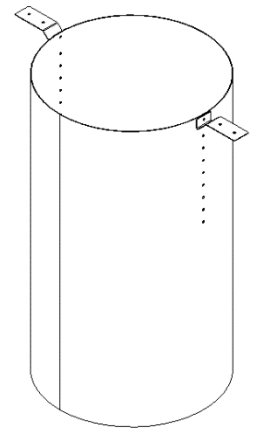
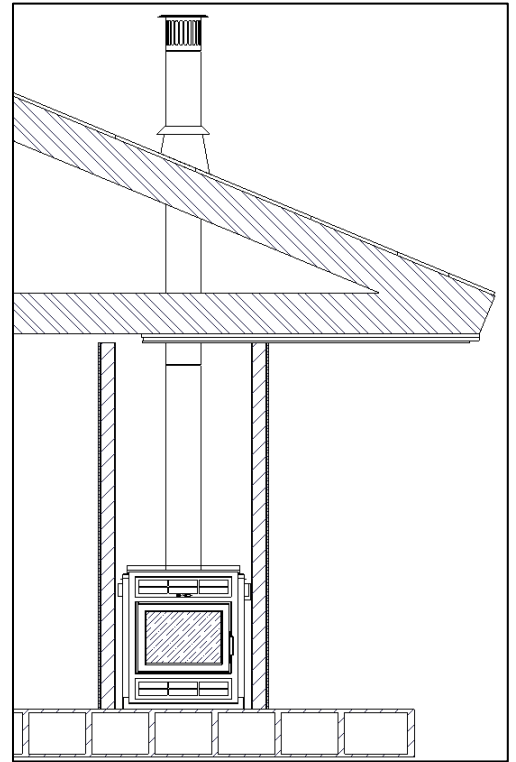
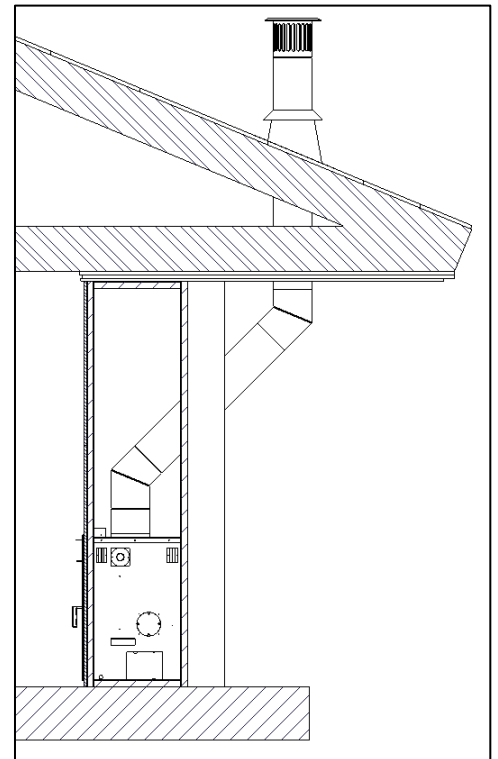
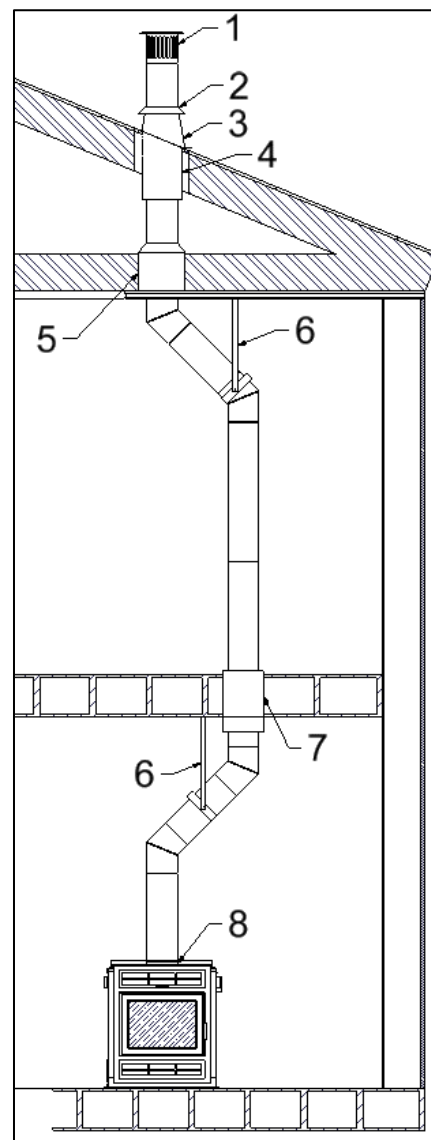

Figure 2-6: SUPREME Roof Rafter Shield
Figure 3-4: Straight Interior Installation
Figure 3-5: Straight Interior Installation
Figure 3-6: Standard Offset Installation
3. Install the SUPREME roof rafter shield in the opening of the roof (Figure 2-6 and Item 4 in Figure 3-6) – adjust the shield so that it is extruding approximately 1" above the roof surface. Ensure to install the appropriate firestop for ceilings and walls.
Refer to Figures 3-4, Figure 3-5 and Figure 3-6 for typical chimney installations.
An offset installation (Figure 3-6) consists of the use of elbows to deviate from unavoidable obstacles or to extend the chimney outside. The following list is a few general rules to take note when installing offsets: